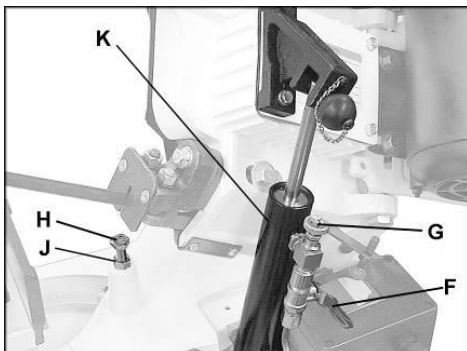

Fig 13
You can control the sawblade downward feeding with the valve control knob (G, Fig 13) and lock the saw with the on/off valve (F).